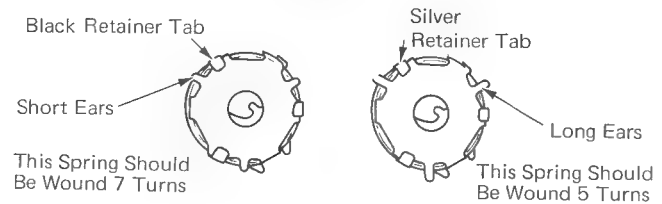

Figure 3
5. Manually latch the carrier return mechanism and rotate the turning wheel, while counting escapement shaft revolutions, until the mainspring is wound the proper number of turns (Figure 3).